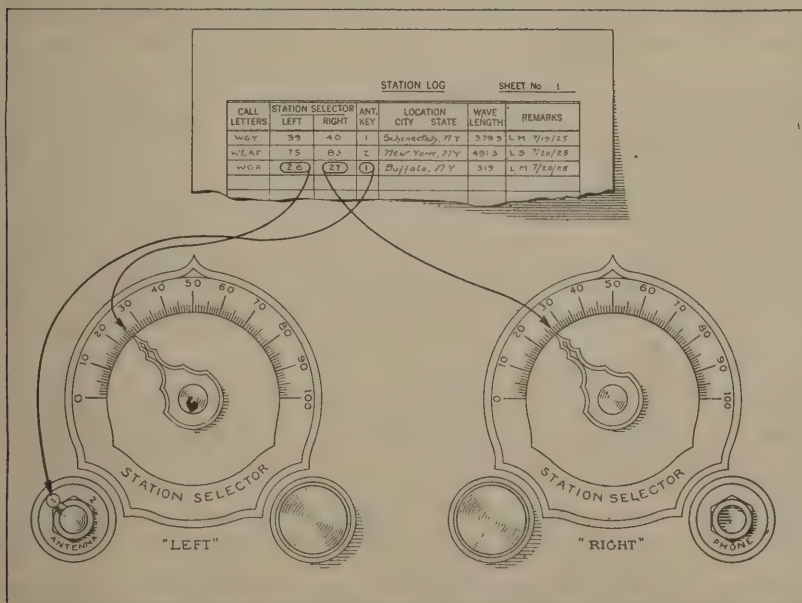

Fig. 22—Selecting Stations by Station Log Card Records
When first operating the receiver, it is well to list several of the stations on the log card, Fig. 22, by means of the calibration chart, after which stations can be easily picked up and logged. Section 49 of this book gives a partial list of Broadcasting Stations with spaces to log STATION SELECTOR settings.
The position of the **ANTENNA** key should be noted on the station log cards (Fig. 22) in the space provided and marked "ANT. KEY," to insure ease of locating the station from the log.
- (c) “Station Selecting by Station Log Method” (Fig. 22).
After the station call letters are heard, you can record the two corrected STATION SELECTOR settings and the setting of the ANTENNA key on the station log card, as shown in Fig. 22, or in the spaces provided in the table of Broadcasting Stations of Section 49 of this book.
Starting with the pointers of the two STATION SELECTORS at "0" setting, rotate the right hand pointer slowly about two divisions at a time and follow with the left hand STATION SELECTOR pointer, oscillating the latter pointer a few divisions above and below each setting of the right hand pointer. When a station is heard, re-set each pointer to the position giving the loudest volume of signal, recording the settings of the two STATION SELECTORS on the log card, Fig. 22, or in the spaces provided in Section 49, when the call letters are heard.
Once you have recorded dial settings for a number of broadcast stations on the station log cards, or in the spaces provided in Section 49, you can obtain broadcast reception from these stations at any future time if the stations are broadcasting and conditions are favorable, by merely setting the pointers of the two STATION SELECTOR dials to correspond to the recorded numbers as shown in Fig. 22.
The setting of this left hand STATION SELECTOR also is dependent on the position of the ANTENNA key lever, when an antenna is used, therefore, it is advisable to record the position of the antenna key on the station log card in the column marked "ANT. KEY" as indicated in Fig. 22. See special instructions covering operation with a loop, in Section 37.